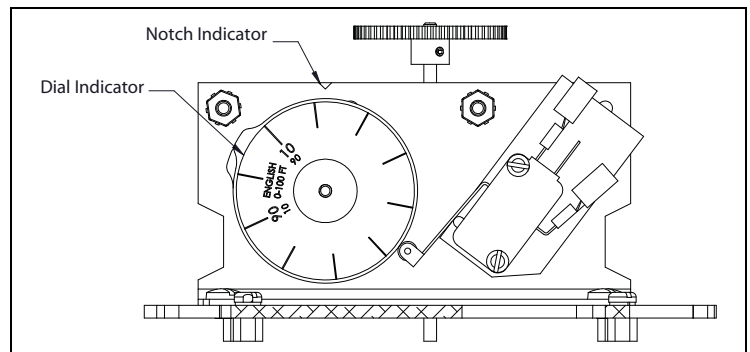

Figure 5-2: Dial and Notch Indicators
3. Rotate the encoder shaft until the correct level reading is indicated on the dial indicator (see Figure 5-2).